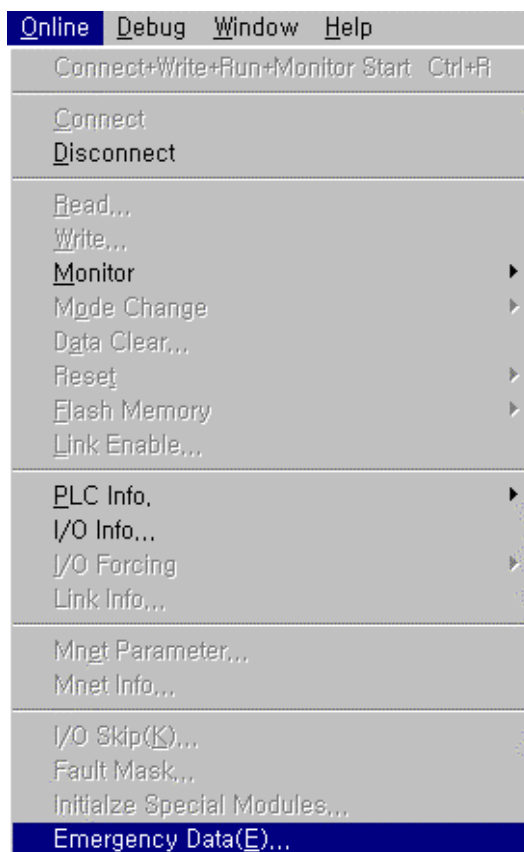

Fig. 6.6.7(A) On-line menu of emergency output data
If user click 'Emergency output data', dialog box that user can specify emergency output data value of appropriate remote station is displayed as Fig. 6.6.7(B).
4 base(0~3) can be specified for base selection, and a base consists of 8 slot(0~7) and this can be set according to each slot. The contact that data box is marked in Fig. 6.6.7(B) is set to 'On' when emergency occurred, and user just click setting button whenever the setting according to each slot is finished.